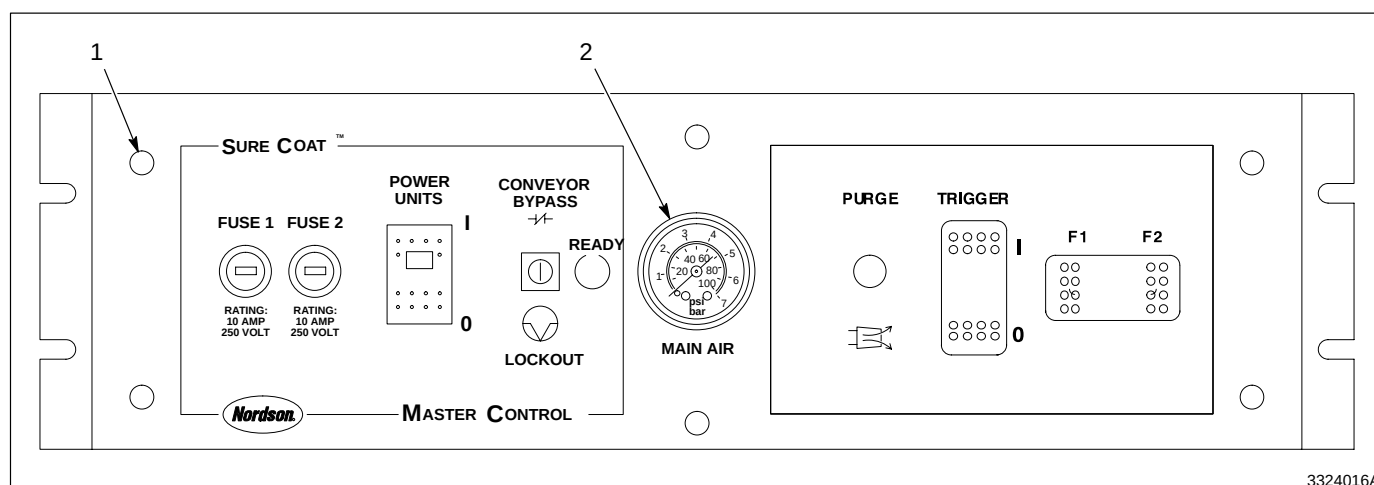

Fig. 7-1 Front Panel Components
2. See Figure 7-1. Remove the four front panel screws (1) from the master control unit.
5. Disconnect the air tubing and remove the air pressure gauge (2) out through the rear unit opening.